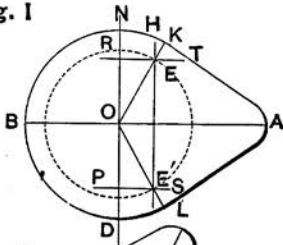
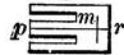

Fig. 2
Fig. 7
**Location of the Reverse-shaft.**—The centre of the reverse-shaft arm  $S$ , Fig. 2, Pl. XX, may now be located as follows: Bisect the line  $mm'$  (shown also on Fig. 7, Pl. XXa) by a line perpendicular to the axis  $XX'$  and on it locate  $N_0$  at a distance from the axis equal to the length of the hanger; draw  $N_0S$  parallel to the axis and make it equal to the length of the reverse-shaft arm. Drill a hole in the drawing-board at  $S$  and connect up the hanger with wooden washers at  $N$  and  $m'$  to give proper clearance so that the model may work freely.